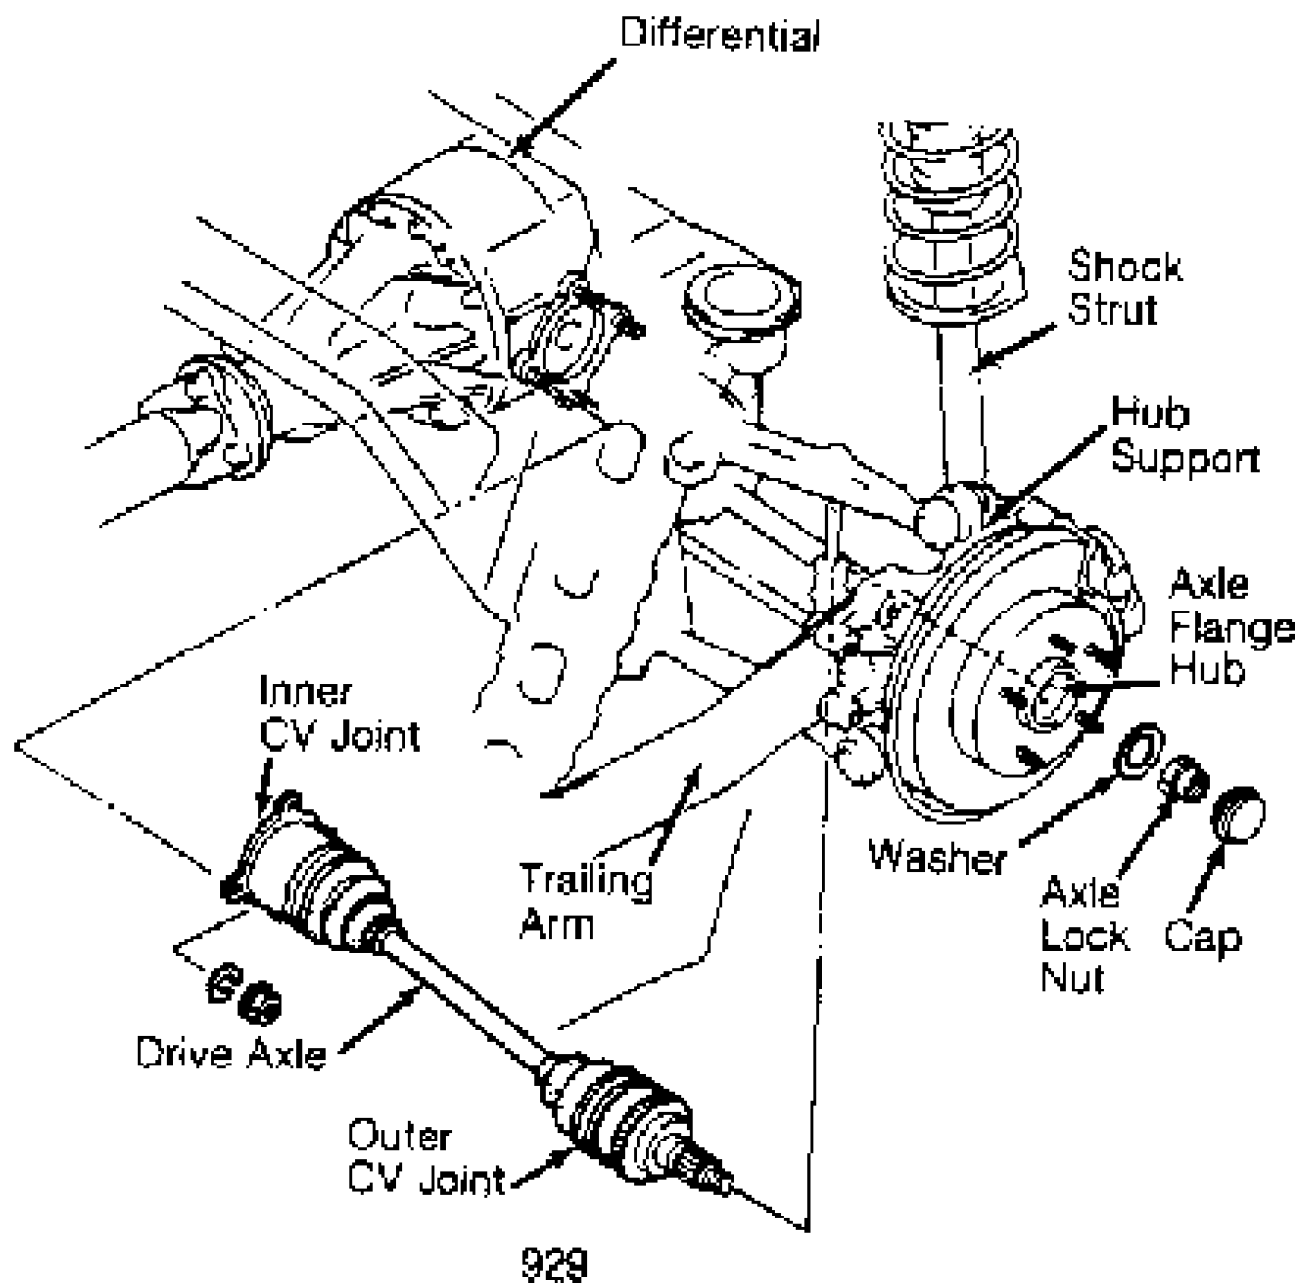

Fig. 3: Removing Rear Drive Axle (929)
1) Raise vehicle and support with safety stands. Remove wheel assembly. Loosen axle lock nut until flush with end of axle. Mark differential and drive axle flanges for installation reference and remove flange nuts. See Fig. 3 or 4.